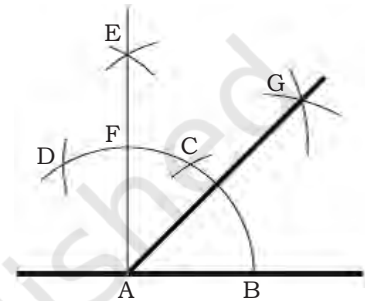

Fig. 1.11: Constructing an angle of 45°
- Join AG. Angle GAB is of 45° (Fig. 1.11).